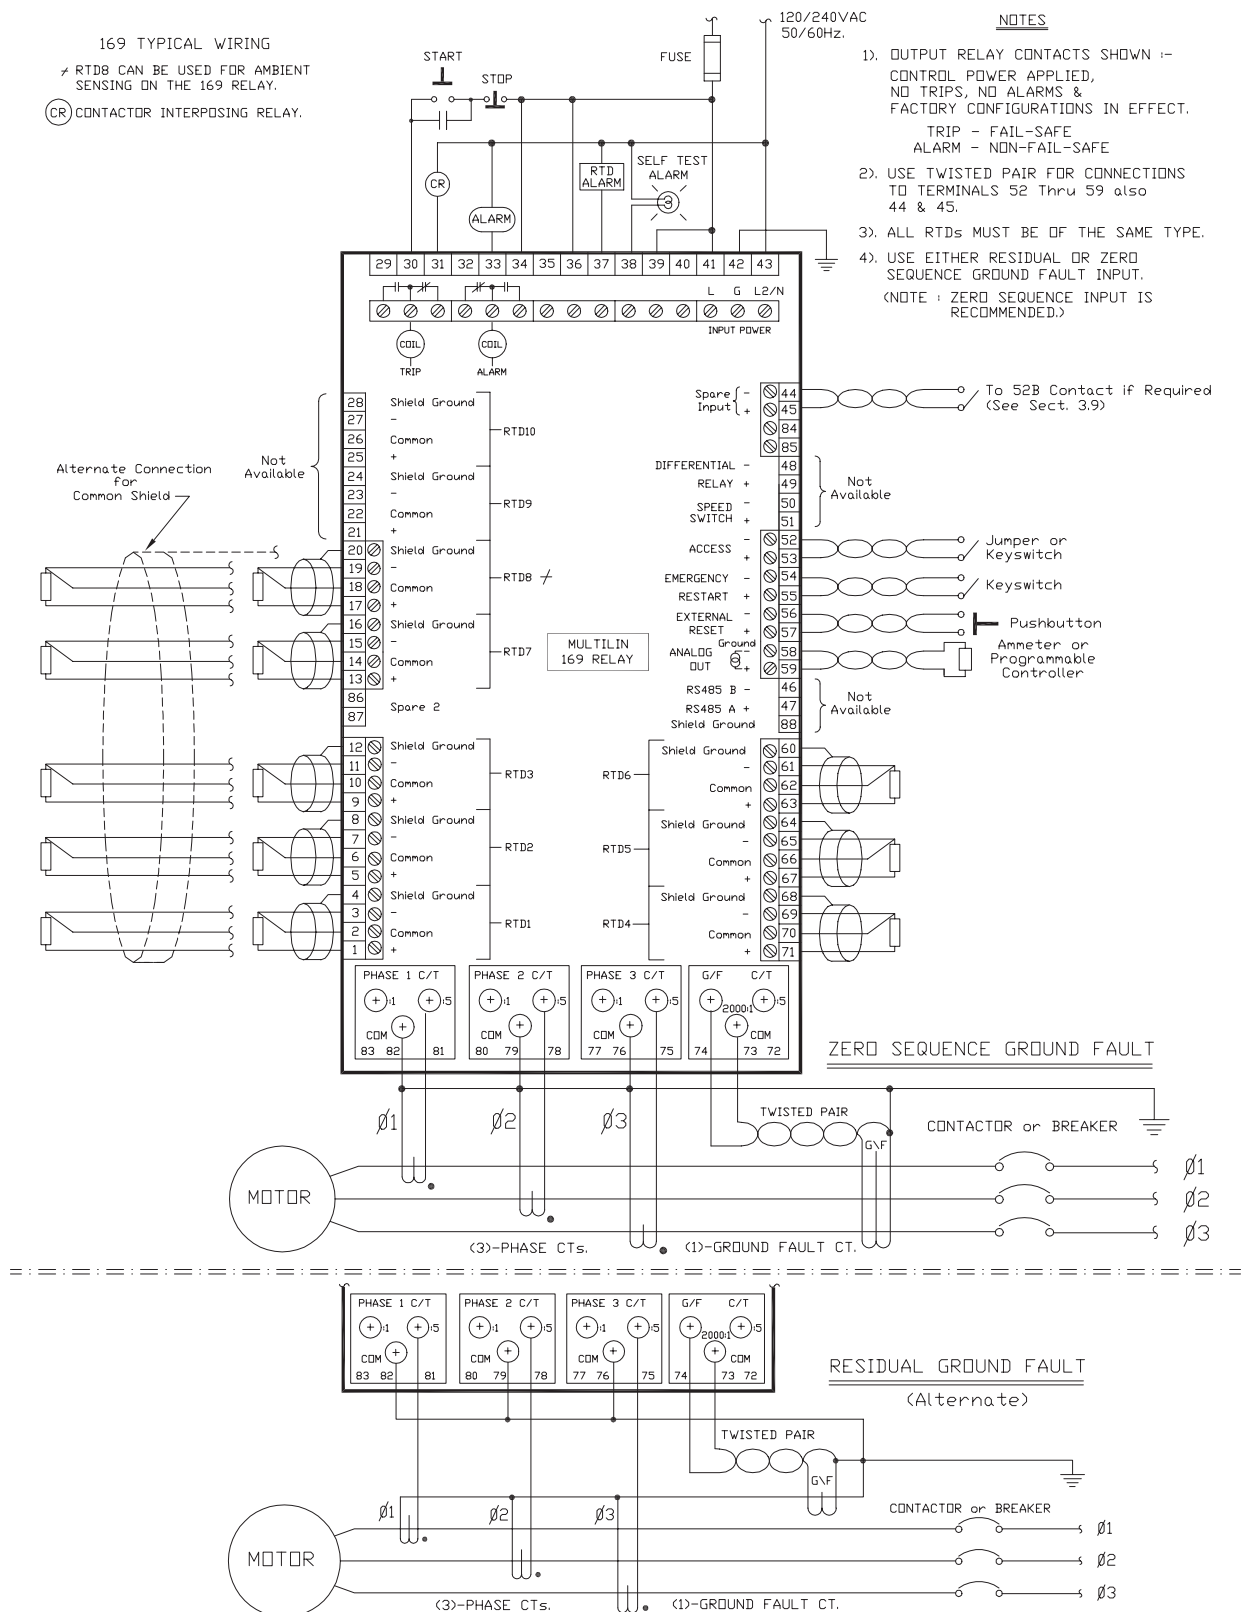

Figure 2-4 Relay Wiring Diagram (AC control power)
The connections made to the 169 relay will vary depending on the programming of the unit. It is not necessary to use all of the connections provided; a minimal configuration would include supply power, three phase current CT inputs and the Trip relay contacts wired in series with the contactor control relay or circuit breaker shunt trip coil. Connections to these and the other terminals outlined below will be explained in the following sections. Figures 2-4, 2-6, 2-7 show typical connections to the 169 relay.
NOTE: The rear of the 169 relay shows output relay contacts in their power down state. Figures 2-4, 2-6, 2-7 show output relay contacts with power applied, no trips or alarms, Factory Configurations, i.e. TRIP - fail-safe, ALARM - non-fail-safe, AUX.1 - non-fail-safe, AUX.2 - fail-safe). See Figure 2-5 for a complete list of all possible output relay contact states. See page 62 for a description of the RELAY FAILSAFE CODE.
One CT for each of the three motor phases is required to input a current into the relay proportional to the motor phase current. The phase sequence must be as shown in Figures 2-4 and 2-7 in order for the phase reversal function to operate properly. If two phase CTs are used as shown in Figure 2-6 the phase reversal function cannot be used (see section 3.19). The CTs used can have either a 1 amp or 5 amp secondary and should be chosen so that the motor full load current is between 50 and 95 percent of the rated CT primary amps. The CT ratio should thus be of the form $n:1$ or $n:5$ where n is between 20 and 1500. The ratio of the CT used must be programmed into the 169 (see section 3.7).
The ground fault CT is connected to terminals 73 and 72 for 5 amp secondary CTs or to terminals 73 and 74 for Multilin 2000:1 CTs. as shown in Figures 2-4, 2-6, 2-7. The polarity of the ground fault CT connection is not important. It is recommended that the two CT leads be twisted together to minimize noise pickup. If a 2000:1 ground fault CT is used, the secondary output will be a low level signal which allows for sensitive ground fault detection.
The main control relay or shunt trip coil of the motor starter or circuit breaker should be connected to the Trip relay contacts of the 169. These contacts are available as normally open (NO), normally closed (NC), and can switch up to 10 amps at either 250 VAC or 30 VDC with a resistive load. Silver cadmium oxide contacts are used because of their ability to handle high inrush currents on inductive loads. Contact Multilin if these contacts are to be used for carrying low currents since they are not recommended for use below 0.1 amps. Connection to the motor contactor or breaker is shown in Figures 2-4, 2-6, 2-7.
NOTE: The rear of the 169 relay shows output relay contacts in their power down state. Figures 2-4, 2-6, 2-7 show output relay contacts with power applied, no trips or alarms, and Factory Configurations in effect (i.e. TRIP - fail-safe, ALARM - non-fail-safe, AUX.1 - non-fail-safe, AUX.2 - fail-safe). See Figure 2-5 for a list of all possible contact states.
Each RTD has four connections to the 169 relay as shown in Figures 2-4, 2-6, 2-7. Since the RTD indicates temperature by the value of its resistance, it is necessary to compensate for the resistance of the connecting wires, which is dependent on lead length and ambient temperature. The 169 uses a circuit to cancel this resistance and read only the actual RTD resistance. Correct operation will occur providing all three wires are of the same length and the lead resistance is not greater than 25% of the RTD 0 °C resistance. This can be accomplished by using identical lengths of the same type of wire. If 10 Ω copper RTDs are to be used special care should be taken to keep the lead resistance as low as possible.
RTD2, and RTD3 (terminals #1-12). Other RTDs should be connected to the terminals for RTD7-RTD10 (terminals #13-28) as shown in Figure 2-4.